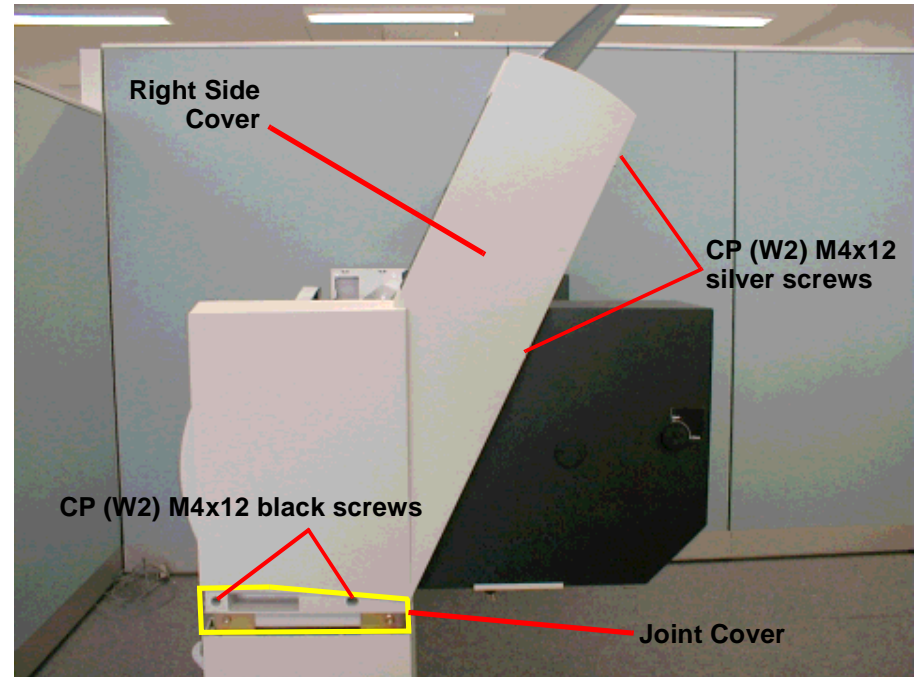

Figure 4-7. L/R Side Cover Outer Screw Location
1. Remove the left and right Joint Covers, as shown in Figure 4-7.